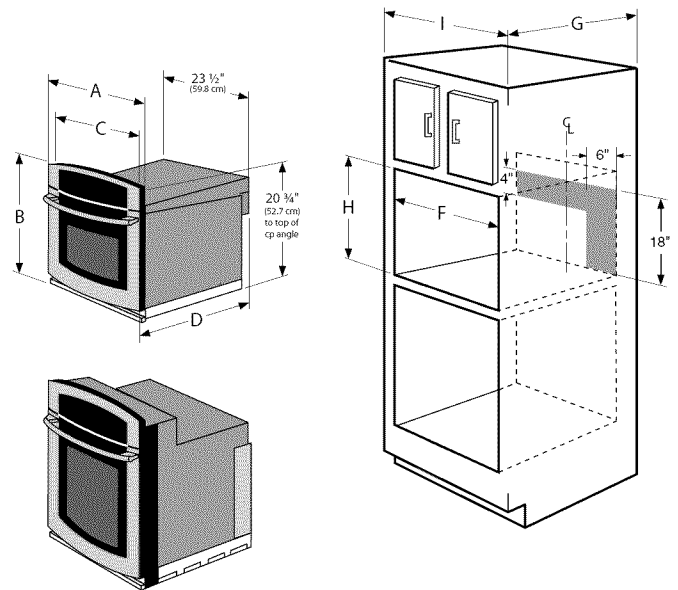

Figure 1
4. The outlet should not be located in the shaded area of Figure 1. It is required the outlet be a dedicated 120 volts with a 15amp rating for the appliance.